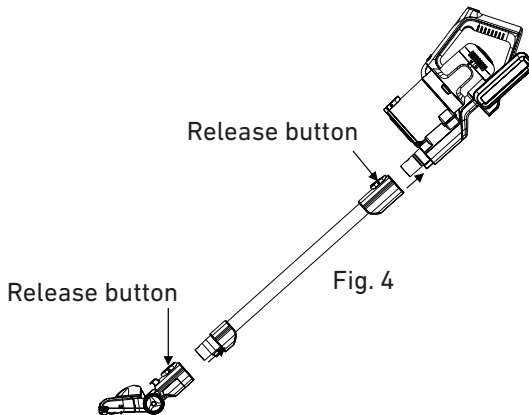

Fig. 4
1. Attach the extension tube onto the body of the vacuum cleaner as shown (Fig. 4) and push to secure. A click will be heard.
2. Fit the floor head onto the extension tube. (Fig. 4) A click will be heard. The crevice nozzle and combination nozzle can be fitted in place of the floor head.